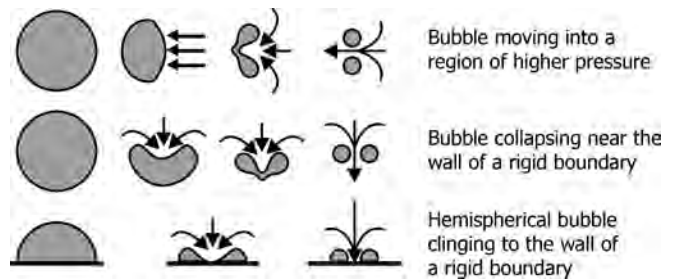

FIGURE 3.17 Collapse of a bubble. (Source: Samson AG, Frankfurt.)
- Figure 3.17 illustrates the collapse of a bubble.